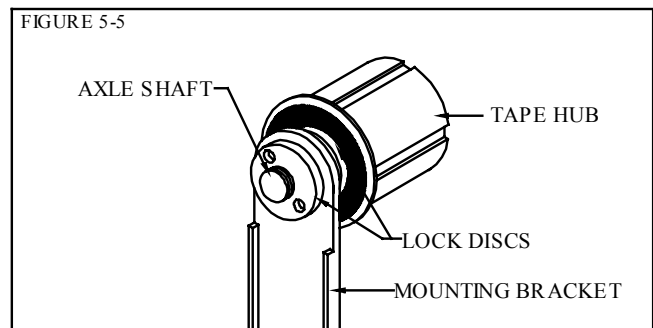
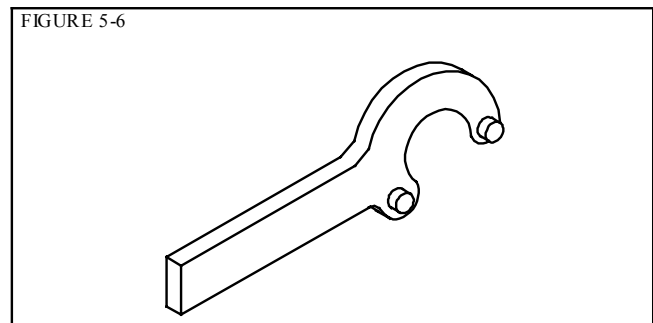

FIGURE 5-5
FIGURE 5-6
6. If the tape is not centered properly, the entire tape hub will need to be moved. To do this, loosen the hub lock discs ([Fig 5-5] with the special tool [Fig 5-6] that is supplied in the machine tool box. Once the discs are loose, the hub can be moved from left-to-right on the threaded axle shaft. After the hub is centered, tighten the lock discs back into place.